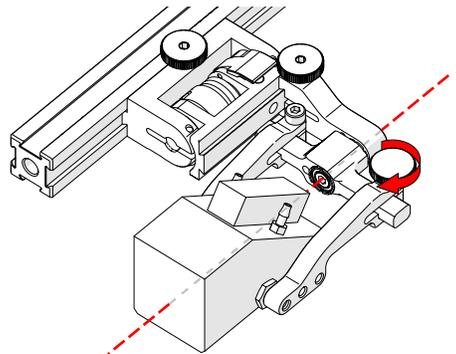

Fig. 105 - Pinch wedge with arm
9. Tighten the probe holder arm adjustment knob (Fig. 105).